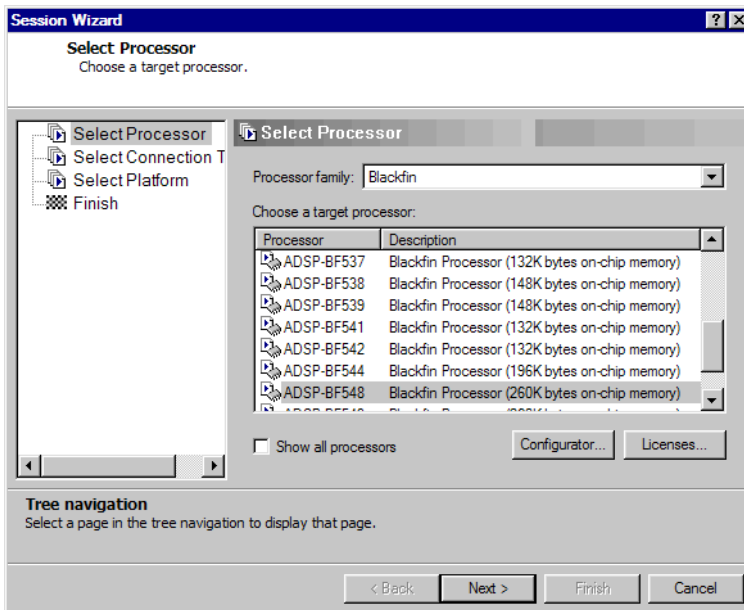

Figure 1-2. Session Wizard
1. From VisualDSP++ **Session** menu, select **New Session**, which launches the **Session Wizard** (Figure 1-2).